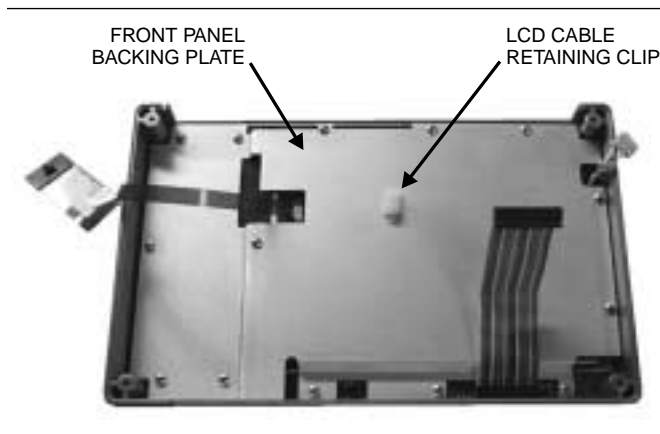

Figure 15. *Front Panel Backing Plate*
4. Release the LCD display cable from the retaining clip on the front panel backing plate (Figure 15).